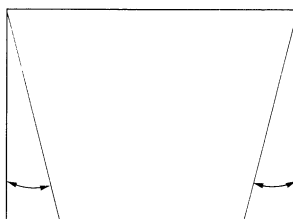

fig. 8
- Adjust the Trapezoid 1 to obtain condition as in fig. 8.